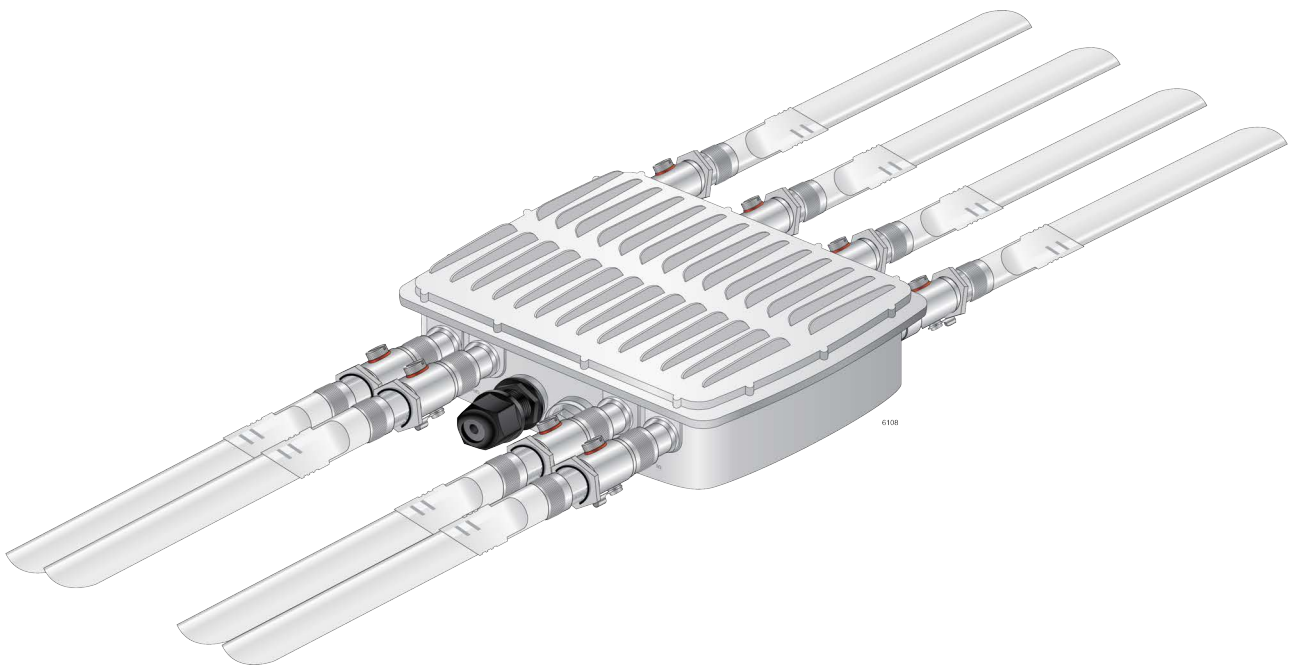

Figure 23. Installing the Antennas to the Access Point
7. Repeat this procedure to install the remaining antennas. See Figure 23.